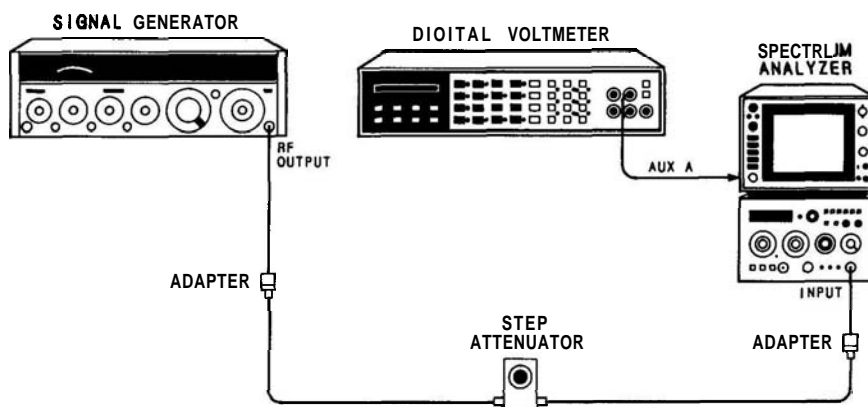

FIGURE 4-22. DISPLAY FIDELITY TEST SETUP
3. Connect equipment as shown in Figure 4-22. Set step attenuator to 0 dB.
5. Set spectrum analyzer's FREQ SPAN/DIV control to zero (0), VIDEO FILTER full CW (not in detent), and RESOLUTION BW control to 1 MHz. Adjust TUNING control for maximum reading on DVM.